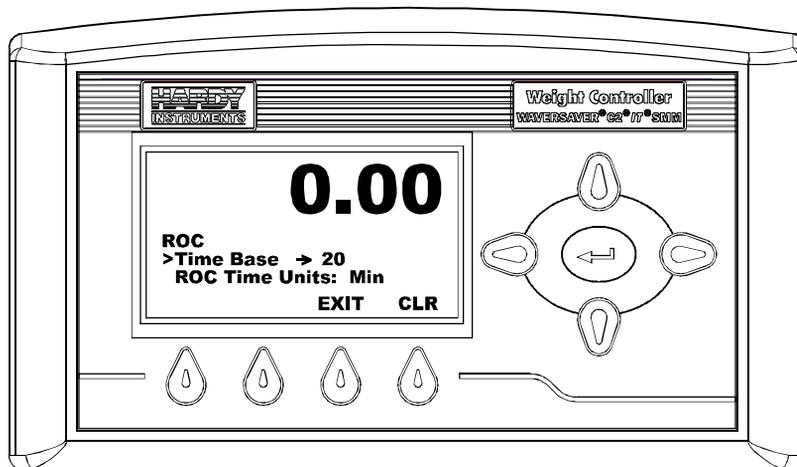

FIG. 144 ROC MENU
Step 4. Press the Enter button to save the entry. The ROC Menu reappears. (See Fig. 144)